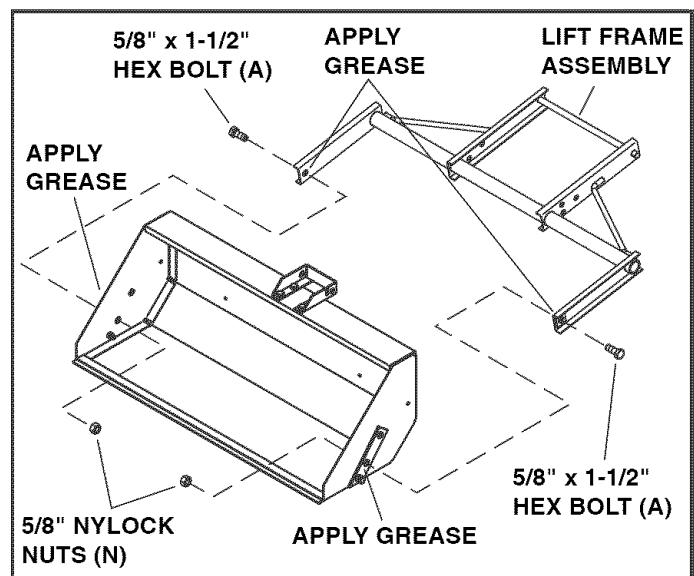

FIGURE 2
STEP 3: INSTALL LIFT FRAME ASSEMBLY (SEE FIGURE 2)
- Assemble the lift frame assembly to the bucket assembly using two 5/8" x 1-1/2" hex bolts (A) and 5/8" nylock nuts (N). **Tighten, then loosen** the nuts 1/4 turn, or until the lift frame pivots freely.